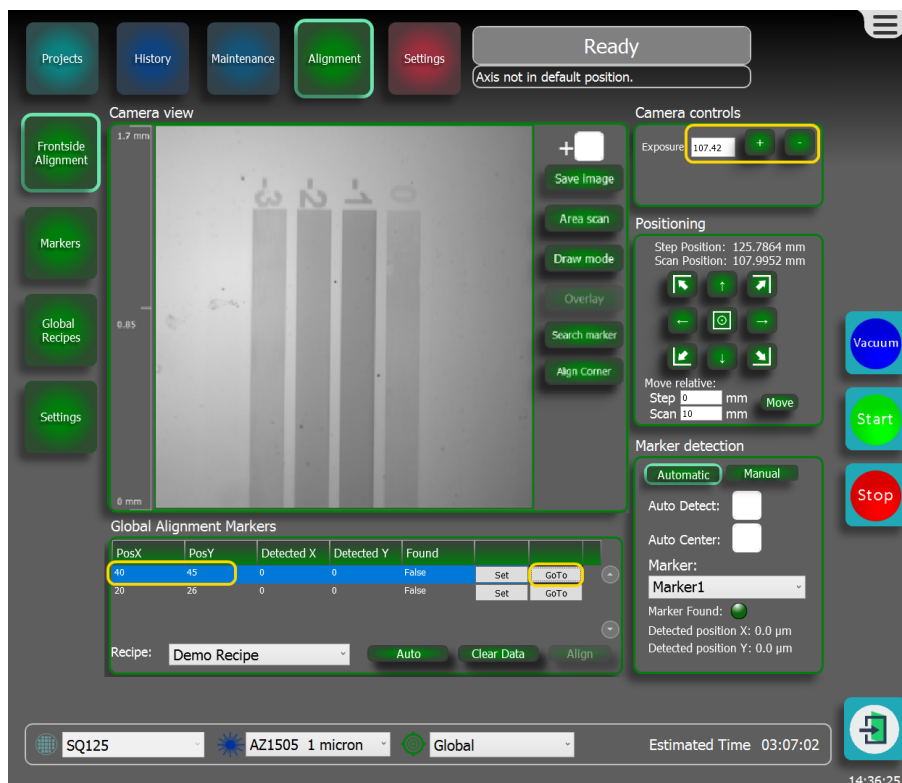

Figure 3-68 Going towards marker position
5. Press **GoTo**, see **Figure 3-68 below**.